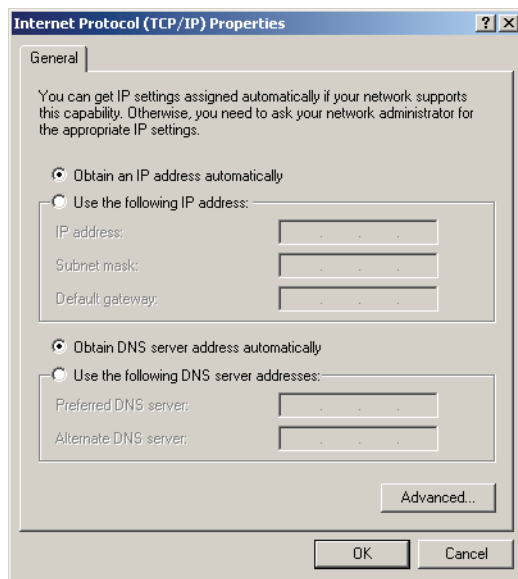

Figure 14.13. TCP/IP Properties dialog box for dynamic IP addresses
5. Under the General tab, click the entry for **Internet Protocol (TCP/IP)** and click the **Properties** button. The TCP/IP Properties dialog box appears (see Figure 14.13).